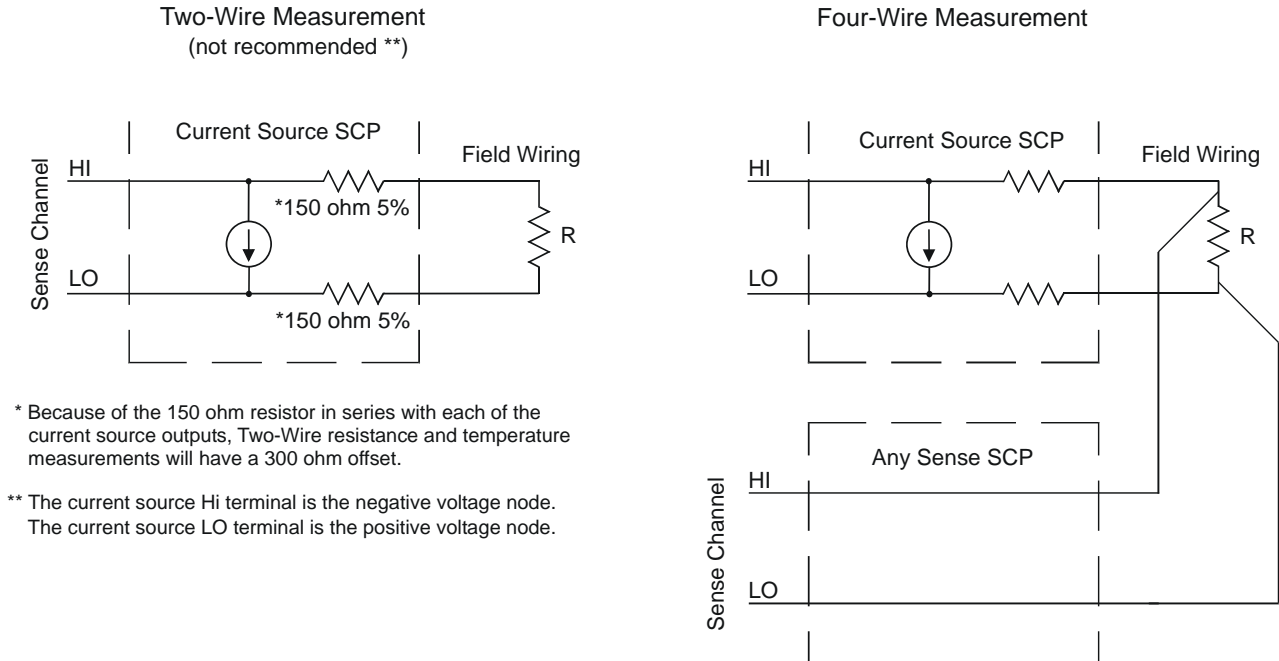

Figure 4-5. Resistance Measurement Sensing
Resistance measurements assume that there is at least one Current Source SCP installed (eight current sources per SCP). See Figure 4-5.
- The <ch_list> parameter specifies which channel(s) to link to the resistance EU conversion. These channels will sense the voltage across the unknown resistance. Each can be a Current Source SCP channel (a two-wire resistance measurement) or a sense channel separate from the Current Source SCP channel (a four-wire resistance measurement). See Figure 4-5 for diagrams of these measurement connections.
Temperature measurements using resistance type sensors involve all the same considerations as resistance measurements discussed in the previous section. See the discussion of Figure 4-5 in "Linking Resistance Measurements."